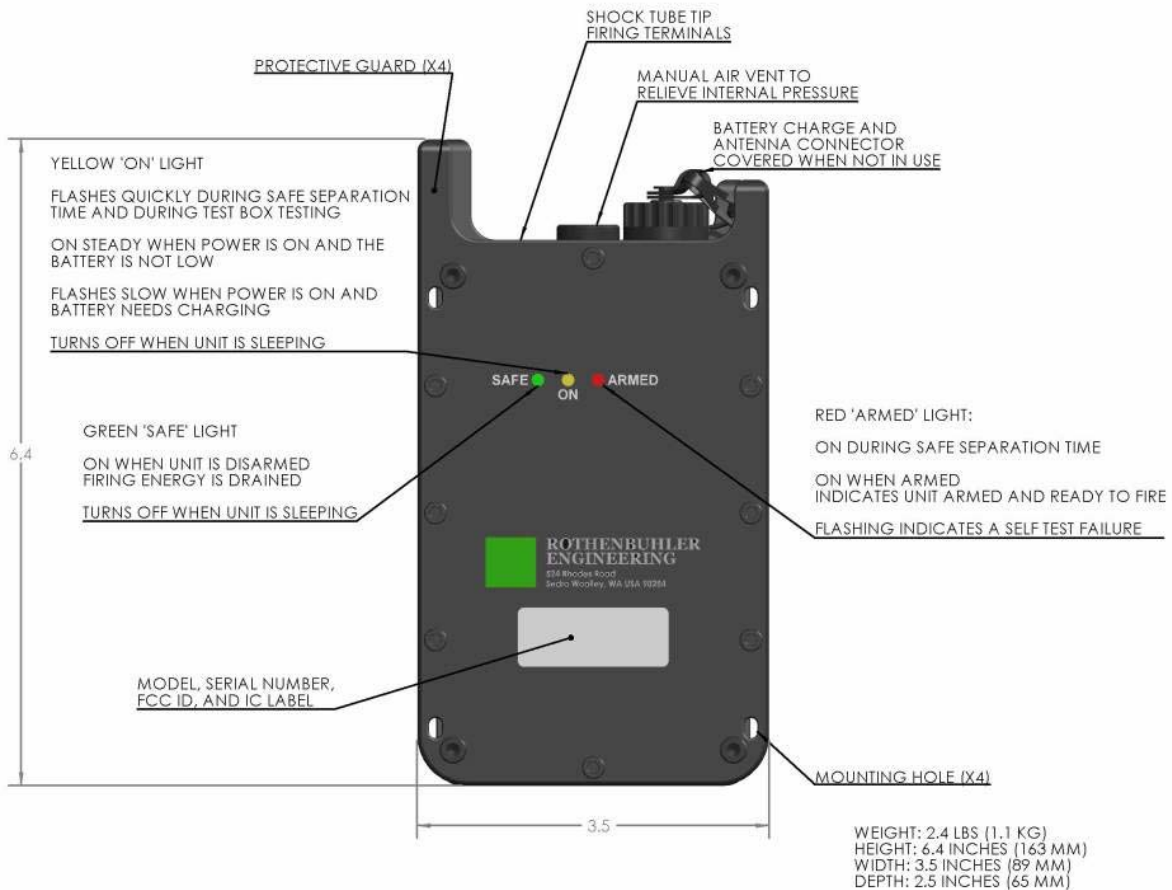

Figure 2-6 Remote Shock Tube Initiator (RSTI)
2.6.1. Figure 2-6 shows the external features of the RSTI. The unit is sealed at the manufacturer or service depot and should not be opened during field activity.